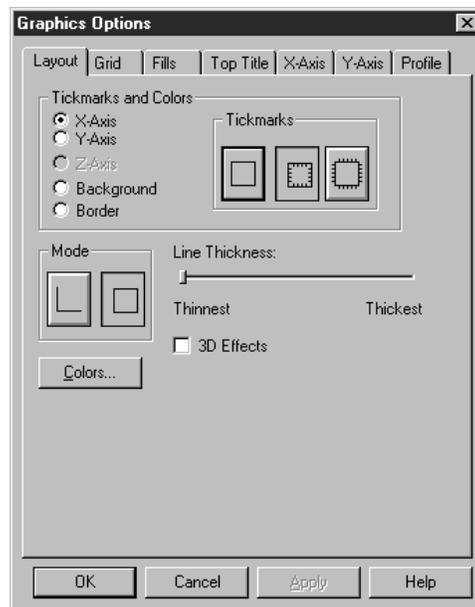

Figure 5-6. *Layout Tab Page*
3. Click the left mouse button, then the right on Graphics Options on the pop-up menu to display the Graphics Options dialog box opened to the Layout page (see Figure 5-6).